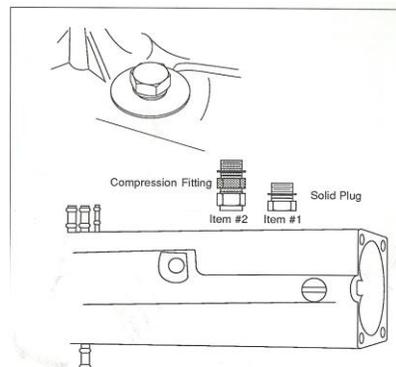

Figure 4
8. When retaining the E.G.R. system, the large compression fitting must be installed into the bottom of the plenum. Refer to Figure 4
9. On Non-EGR applications, use this plug (Figure 4)
13. On E.G.R. applications ensure the coupling of the 2 manifold base to the plenum fittings. It is best to tighten this coupler from the front of the plenum (with a 15/16" wrench) after the runners are installed & before the throttle body is installed. It is a tight & tedious task, so patience is required. See figure 4.